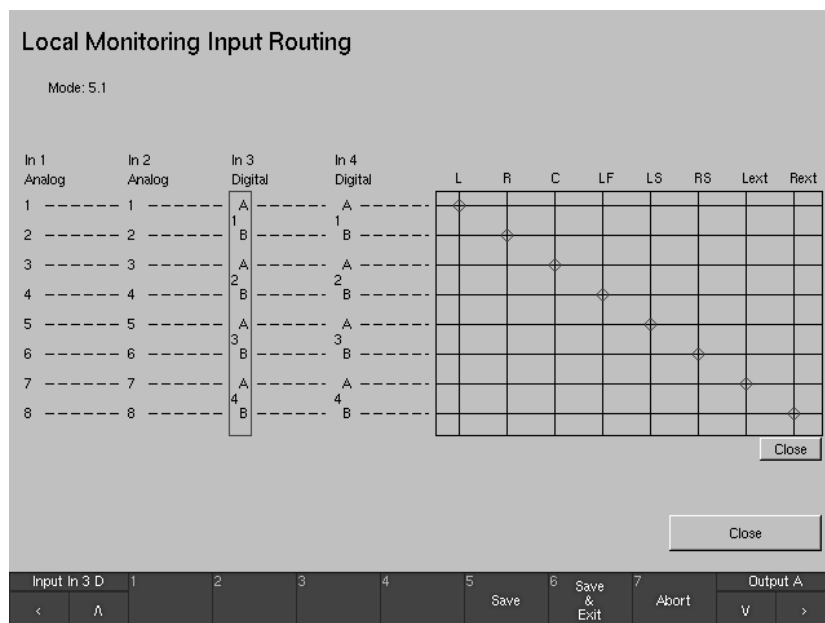

Fig. 4-13: Channel allocation matrix for the Monitoring Input Routing
• **Monitoring Input Routing** (see Fig. 4-13)
This button opens a new menu page with the routing matrix in which you can assign the physical inputs of the connections Monitoring In 1 analog, Monitoring In 2 analog, Monitoring In 3 digital and Monitoring In 4 digital (see Chapters 2.3.9 to 2.3.12 and Fig. 4-13 on the next page) in each case to the internal logical channels L, R and so on.